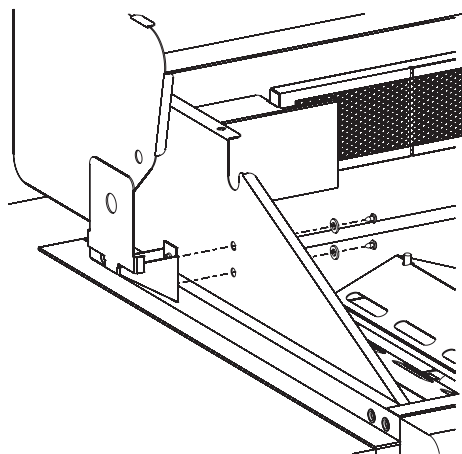

Figure 9
10. Attach the motor bracket to the left side of the grill with two (2) lock washers, and 1/4" screws. See Figure 9.